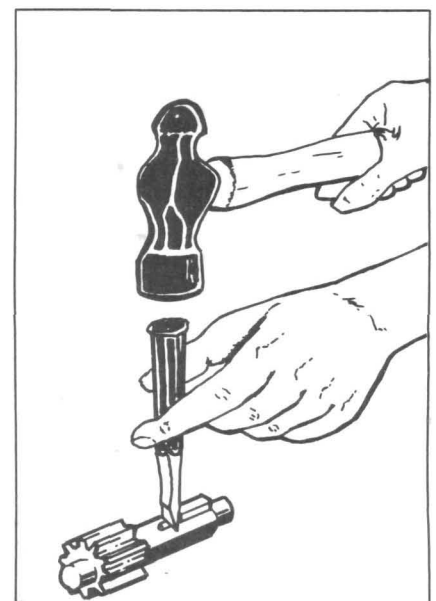

Figure 5-6: Notching the back of the stem pinion.
1. Attach the key (12) to the outside keyway in the fast speed pinion gear (11). Make sure the key does not obstruct the snap ring groove.
2. Attach the bronze worm gear (10) to the fast speed pinion gear making sure the worm gear hub is placed towards the fast speed pinion gear. To attach, set the bronze worm gear on an open vise and seat the fast speed gear with a rubber mallet.
3. Attach the (external) snap ring (9) to the fast speed pinion gear. Make sure the rounded side of the snap ring is facing towards the fast speed gear. Though not easy to observe, the snap ring has a flat side and a rounded side.
4. Using an open vise and a rubber mallet, attach the washer (8) and bearing (7) to the left side of the stem pinion (5). If you are using a sealed bearing, make sure the seal faces out.
5. Use #30 weight oil to lubricate the two bearings (7).
6. Attach the key (6) to the stem pinion. Make sure the key is flush with the edge facing the worm gear. Then use a hammer and chisel to notch the back of the keyway in the stem pinion shaft. This will prevent the key from sliding back. See Figure 5-6.
7. Place the assembled worm gear (10) and fast speed pinion gear (11) into the housing. Position the empty keyway in the fast speed gear at 12 o'clock.